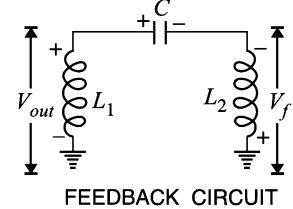

Fig. 14.14
Circuit operation. When the circuit is turned on, the capacitor is charged. When this capacitor is fully charged, it discharges through coils L_1 and L_2 setting up oscillations of frequency determined by *exp. (i). The output voltage of the amplifier appears across L_1 and feedback voltage across L_2 . The voltage across L_2 is 180° out of phase with the voltage developed across L_1 (V_{out}) as shown in Fig. 14.14. It is easy to see that voltage feedback (*i.e.*, voltage across L_2) to the transistor provides positive feedback. A phase shift of 180° is produced by the transistor and a further phase shift of 180° is produced by $L_1 - L_2$ voltage divider. In this way, feedback is properly phased to produce continuous undamped oscillations.
* Referring to Fig. 14.14, it is clear that L_1 and L_2 are in series. Therefore, total inductance L_T is given by : $L_T = L_1 + L_2 + 2M$
** Referring to Fig. 14.14, the circulating current for the two inductors is the same. Further, inductive reactance is directly proportional to inductance.